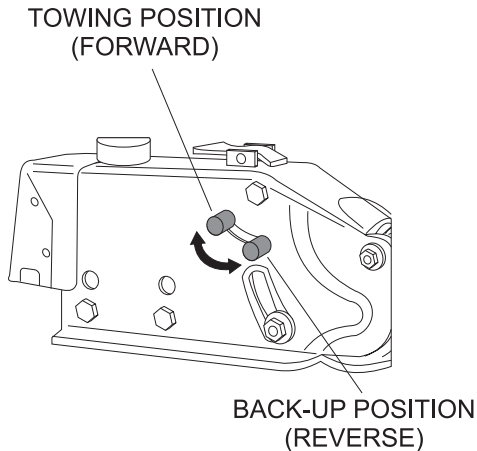

Figure 41. Towing Hitch Direction Lever
12. The direction lever must be positioned in the “Towing Position” (Figure 41).
Before towing the pump, always ensure that the **directional lever** (Figure 41) has been disengaged and is in the “Towing Position.”
3. Move the directional lever on the side of the actuator downward from the “**TOWING**” position along the curved slot in the actuator frame to the “**BACK-UP**” position (Figure 41). The slot has a notch at the bottom of its travel. Push the directional lever down to engage the locking notch.